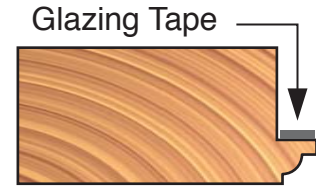

Figure 21
d) As shown in Figure 21, apply 1/16" or 3/32" thick glazing tape to the remaining section of the stile profile. Apply the tape on all four sides of the opening, and fit the tape carefully to avoid gaps. Apply sealant to the joints between the sections of tape. Refer to the instructions that came with the tape for recommended sealants and complete installation instructions, or check with the tape supplier for more details.